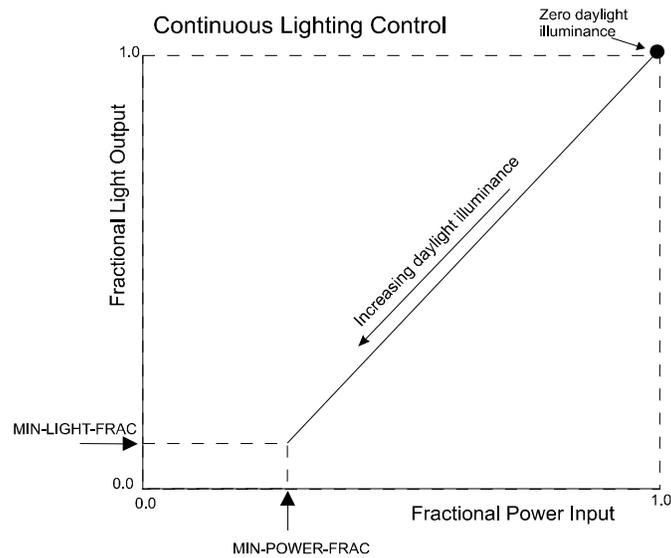

Figure 19 Light output vs. electrical power input for a CONTINUOUS lighting control system
**CONTINUOUS** Specifies a dimming control system in which the electric light output and power input decrease continuously and linearly as the daylight illuminance increases. The control action at a daylighting reference point is illustrated in Figure 19 in terms of power input fraction (power input divided by maximum power input), as the daylight illuminance increases, and light output fraction (electric light output divided by maximum electric light output).
Figure 19 shows that, as the daylight illuminance increases, the fractional light output decreases from 1.0 (at zero daylight illuminance and maximum input power) to a value MIN-LIGHT-FRAC at the minimum power fraction, MIN-POWER-FRAC.